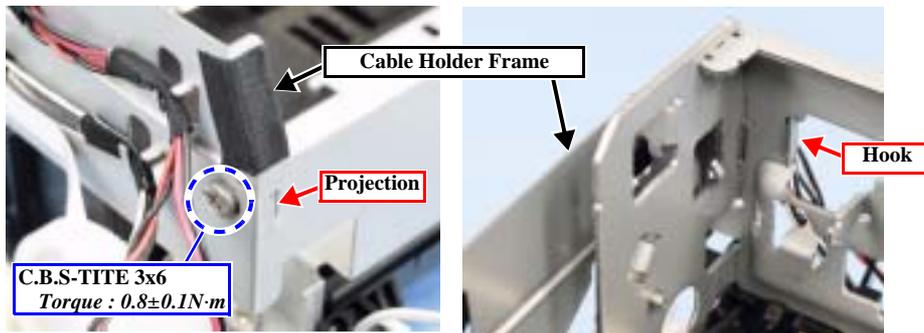

Figure 4-65. Removing the Cable Holder Frame
9. Remove the screw, and remove the Cable Holder Frame. (Fig. 4-65)
- When installing the Cable Holder Frame, ensure that it is positioned correctly in the front and back direction. (Fig. 4-65)